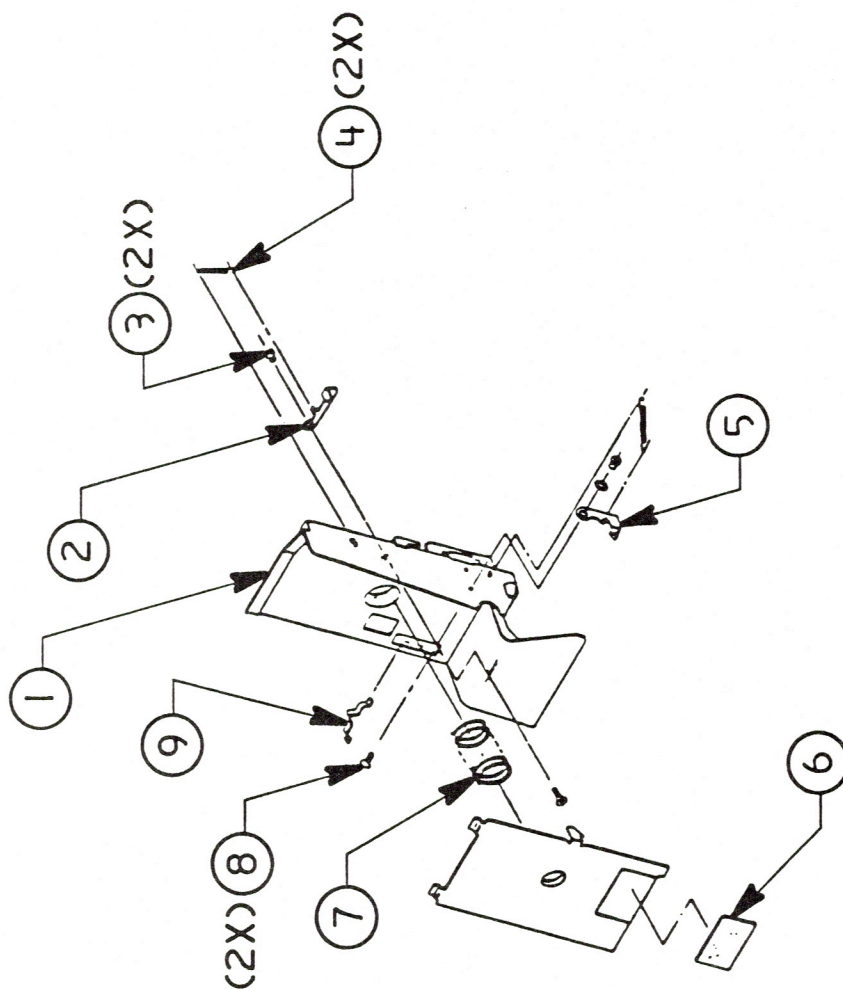

FIGURE 3
**SHEET FEEDER - HOPPER ASSEMBLY, RIGHT HAND (Figure 3)**